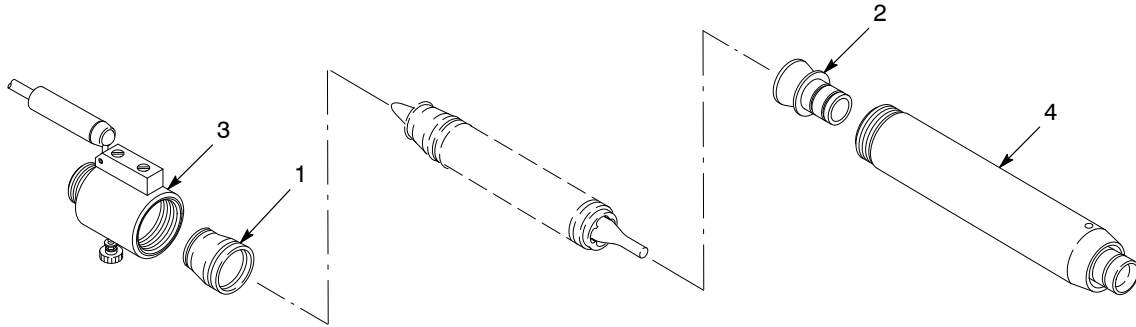

Figure 6-5 Installing the Charge Module—Steps 1 and 2
1. See Figure 6-5. Install the inlet wear sleeve assembly (1) from the service kit in the body (3).
2. Install the outlet wear sleeve assembly (2) from the service kit in the extension (4).